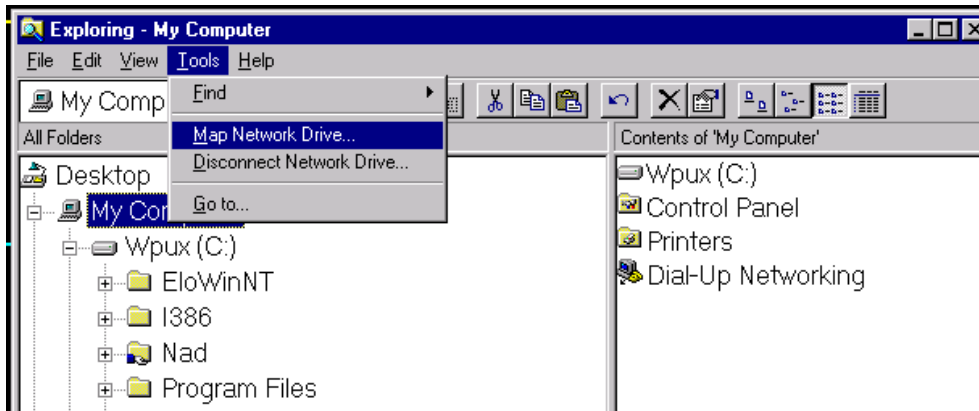

FIGURE 1-9. Map Network Drive Dialog
- 1.26 From the menu list at the top of the Explorer window select 'Tools', 'Map Network Drive...', then press Enter. Refer to FIGURE 1-9.